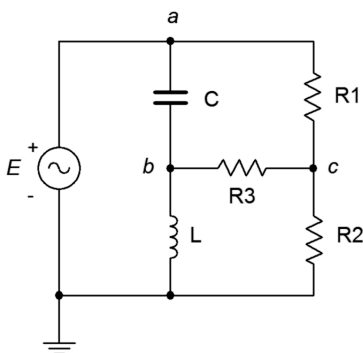

Figure 6.9
17. Given the circuit in Figure 6.9, use mesh analysis to determine v_{bc} . $E = 10\angle 0^\circ$, $R1 = 1\text{ k}\Omega$, $R2 = 2\text{ k}\Omega$, $R3 = 3\text{ k}\Omega$, $X_C = -j4\text{ k}\Omega$, $X_L = j8\text{ k}\Omega$.
18. Use mesh analysis to find the current through resistor R3 in the circuit of Figure 6.9. $E = 20\angle 0^\circ$, $R_1 = 10\text{ k}\Omega$, $R_2 = 30\text{ k}\Omega$, $R_3 = 1\text{ k}\Omega$, $X_C = -j15\text{ k}\Omega$, $X_L = j20\text{ k}\Omega$.
52. Given the circuit in Figure 6.9, use nodal analysis to determine v_{bc} . $E = 20\angle 0^\circ$, $R_1 = 10\text{ k}\Omega$,